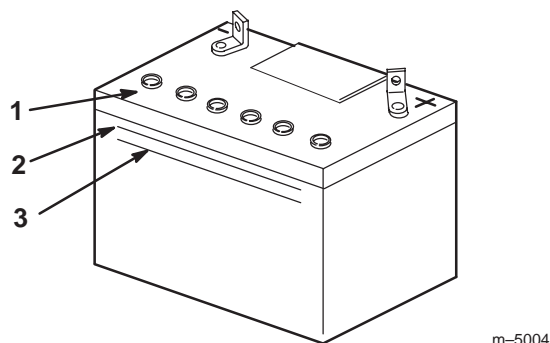

Figure 76
2. Look at the side of the battery. The electrolyte must be up to the **upper** line (Fig. 76). Do not allow the electrolyte to get below the **lower** line (Fig. 76).
3. Remove the vent caps from the battery (Fig. 76).
4. Slowly pour distilled water into each battery cell until the level is up to the **upper** line (Fig. 76) on the battery case.
5. Wait five to ten minutes after filling the battery cells. Add distilled water, if necessary, until the electrolyte level is up to the **upper** line (Fig. 76) on the battery case.